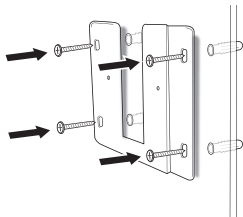

Fig. 1
4. Secure the wall mount bracket to the drywall anchors using the four 1" Phillips-Head screws; do not over tighten, Fig 1.